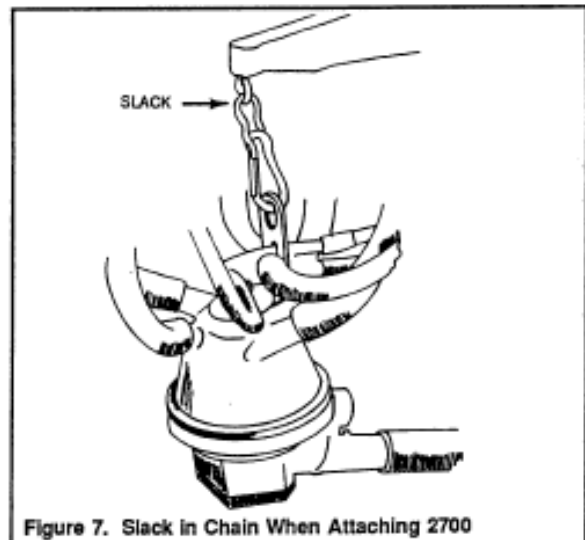

Figure 7. Slack in Chain When Attaching 2700
- e. Adjust arm's height so there is slack in the chain holding the claw. The claw's weight must be totally supported by the cow. Figure 7.